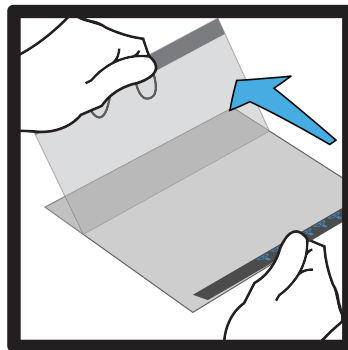
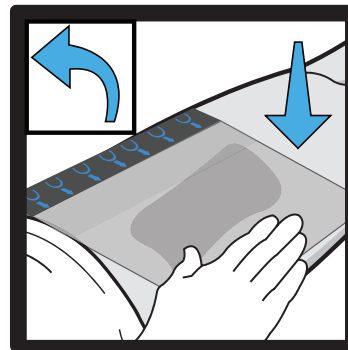
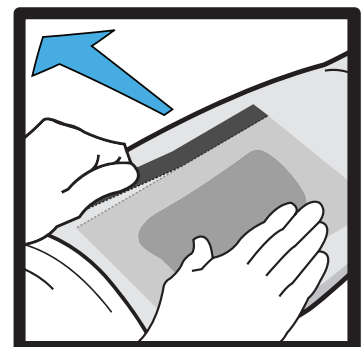

Figure 5
Figure 6
Figure 9
10. Remove the drape's release liner starting with tab A (**Figure 5**). Invert and place over the foam and peri-wound (**Figure 6**) and continue removing the contact layer with B tab and C tab (**Figures 7-8**). Remove the remaining perforated tab (**Figure 9**). Gently press down on drape material around the wound site and over the foam to ensure dressing is properly sealed.